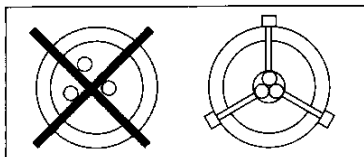

Figure 88: Incorrect and correct methods of grouping MV cables together in center of core balance CT
4. Group the MV cables together, and install them in the center of the core balance CT (figure 88). The MV cable shielding *must* pass through the CT to cancel out measurement of the eddy currents carried by the conductor.